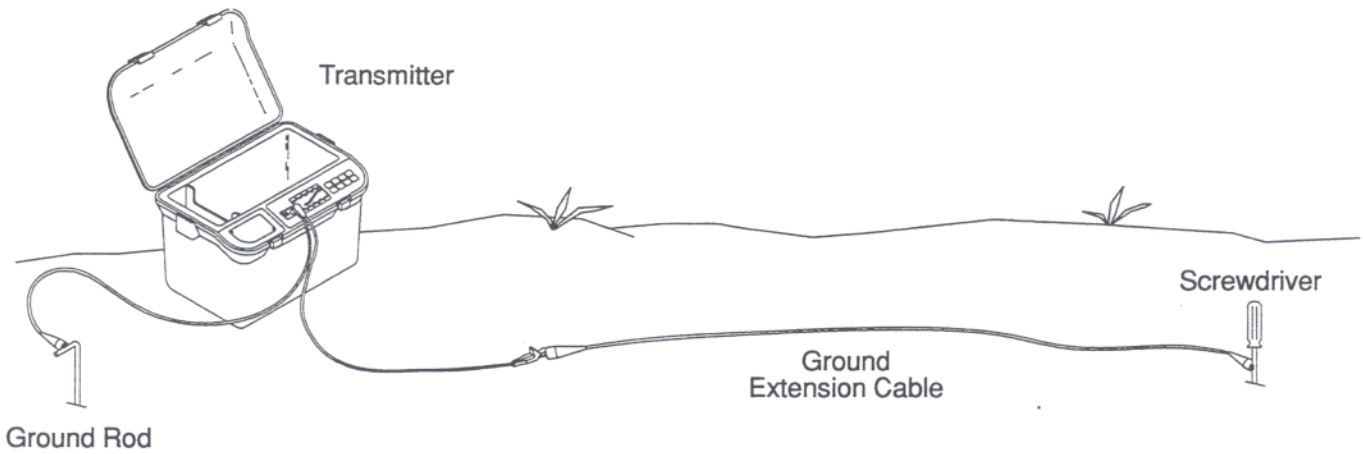

Fig. 6-4 Transmitter Test
- c. Plug the Direct Connect Transmitter Cable into the Transmitter's Δ (input/output) jack. Connect the Black clip to the ground rod. Place the ground rod in the ground. Connect the Ground Extension Cable to the Red clip and lay it out on the ground in a straight line away from the ground rod. Place a screwdriver in the ground attached to the other clip of the Ground Extension Cable. Refer to Fig. 6-4. Press the Transmitter's $\frac{1}{\Omega}$ to turn the Transmitter on. Press TRACE (trace) and then f Hz to choose the lowest frequency. Look at the bar graph. It shows the relative amount of signal being fed to the cable (in this case the Ground Extension Cable). The signal level should be in the slanted portion of the graph indicating that the Transmitter is working.